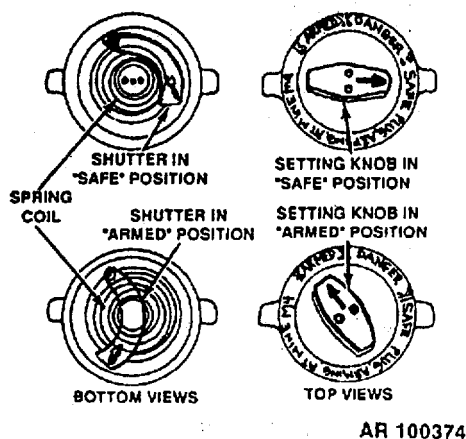

Figure 2-25. Setting knob in SAFE and ARMED positions.
- (12) Pick up arming plug M4 and turn setting knob to SAFE position (if not already set to SAFE position) (fig. 2-25).